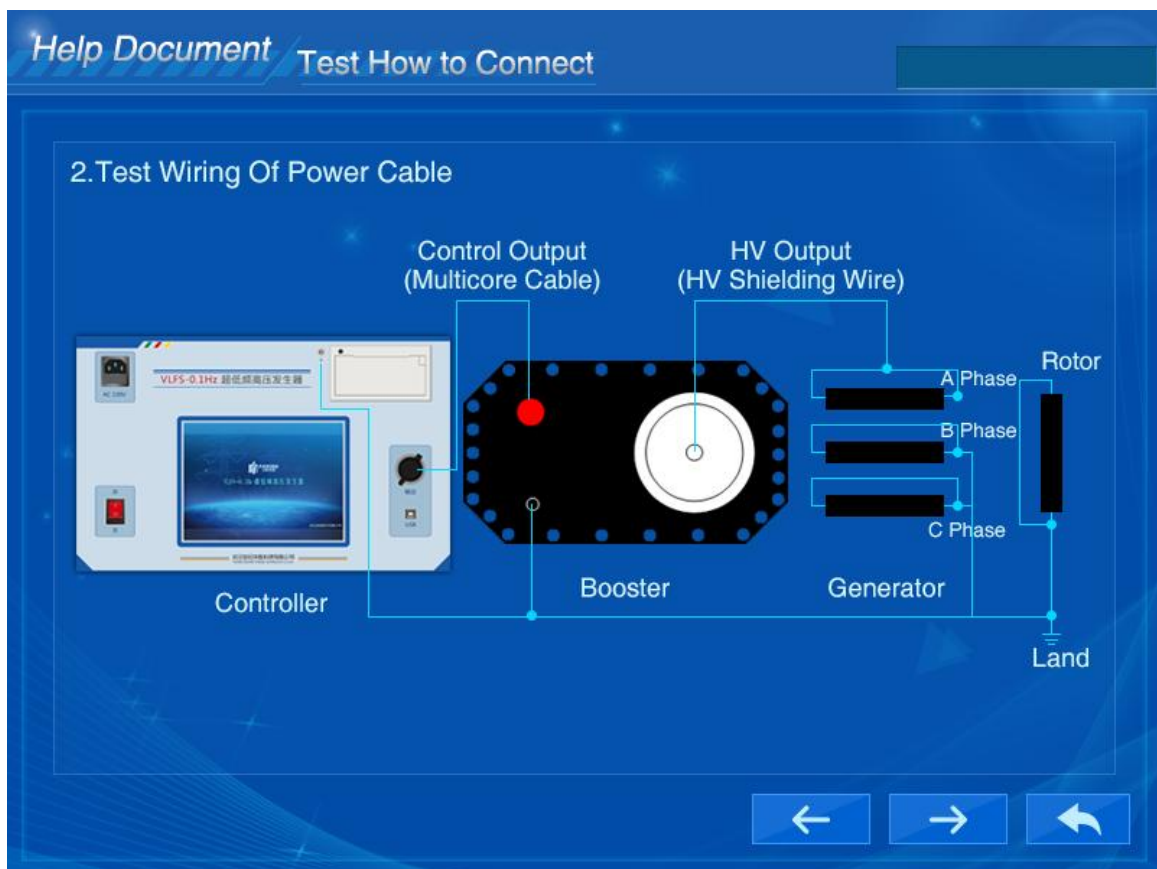

Figure 16 Wiring Diagram of Synchronous Motor
2. Wiring method: The test shall be carried out in phases, the tested phase shall be pressurized, and the non-tested phase shall be short-circuited and grounded. The test wiring is as shown in Figure 16 below.